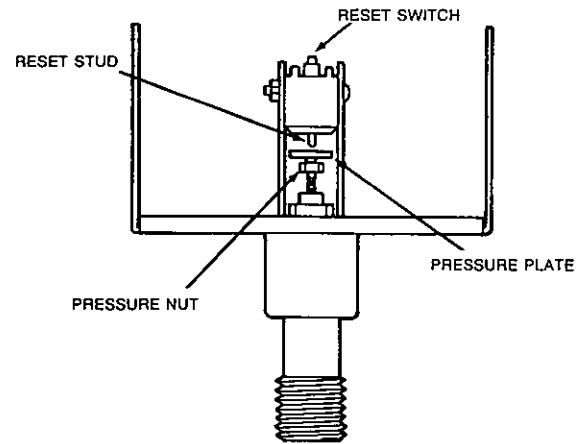

FIGURE 4
5. Manually lift up on each pressure plate or pressure nut. An audible click should be heard at this time. The sound verifies that the switch has transferred to an actuated condition. See Figure 4.